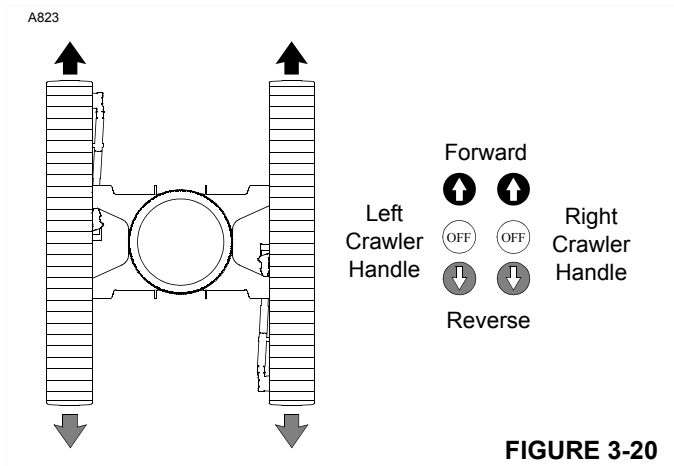

FIGURE 3-20
- 7. To travel straight (Figure 3-20), move both crawler handles the same amount in the desired direction.